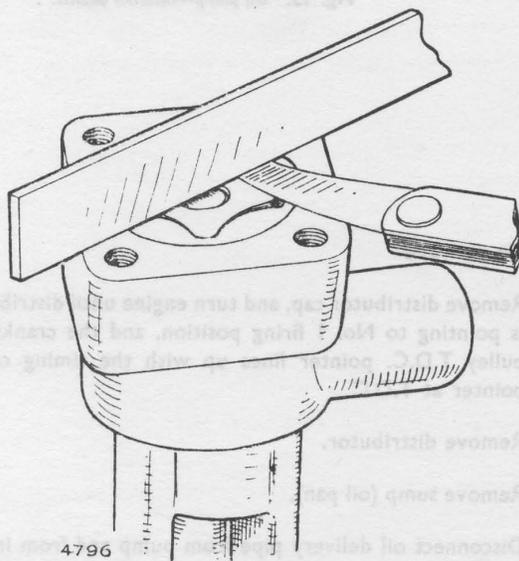

Fig. 15. Checking oil pump rotor end clearance.
1. End clearance between the inner and outer rotor ring and pump body. The maximum and minimum are .003 in. (.076 mm.) and .001 in. (.025 mm.) when measured with a feeler and straight edge as illustrated in Fig. 15.